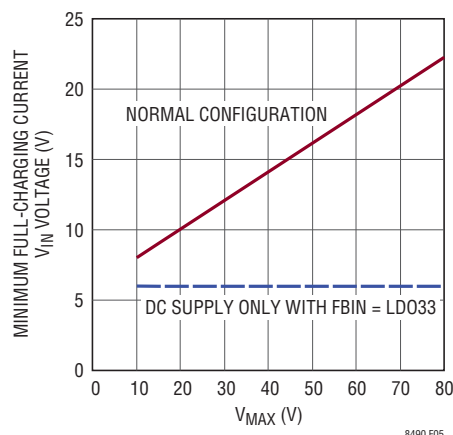

Figure 5. Minimum Full Charging Current V_{IN} Voltage
- 3. LOW INPUT VOLTAGE EFFECTS:** Figure 5 shows the minimum input voltage, below which the maximum charging current can be reduced. This limit is a function of the input V_{MAX} as discussed previously in the Input Voltage and Modulation Network section. Maximum charging current can reduce as FBIN gets closer to its regulation voltage of 1.205V (typical). This is not normally a significant issue unless 1) the charger is powered by a low voltage DC power supply or 2) a low voltage panel is used with a charger that was configured for a much higher voltage panel. The farther that V_{IN} is below the Normal Configuration line in Figure 5 the more the current can reduce.
When V_{IN} is powered by a DC voltage supply, maintain V_{IN} higher than the Normal Configuration line in Figure 5. Operating V_{IN} below this line can reduce the maximum charging current and the V_{S2} and V_{S3} charging voltages. If V_{IN} is never going to be supplied by a solar panel then FBIN can be disconnected from FBIR (see Figure 3) and reconnected to the LDO33 pin. This allows the charger to operate with V_{IN} as low as 6V with no charging current or voltage reduction.
When using a solar panel supply, choose a panel having a maximum open-circuit voltage (V_{OC}) close to V_{MAX} (discussed in the prior Input Voltage Sensing and Modulation Network section). The maximum power point voltage is typically well above the voltage limit in Figure 5 and current limiting is rarely an issue. Avoid using solar panels that operate dramatically below V_{MAX} , particularly if the maximum power point voltage is typically below the Normal Configuration line in Figure 5.
MINIMUM INPUT VOLTAGE REQUIREMENT: When power supply mode is enabled, the LT8490 will operate from an input as low as 6V. However, charging current capability can become limited at low input voltages depending on the V_{MAX} voltage used to select the input voltage sensing network (see previous Input Voltage Sensing and Modulation Network section). Figure 5 shows the minimum input supply voltage required, below which charging current can become less than the maximum output current limit. If the LT8490 is powered by a DC supply only, the minimum input voltage shown in Figure 5 can be reduced to 6V by